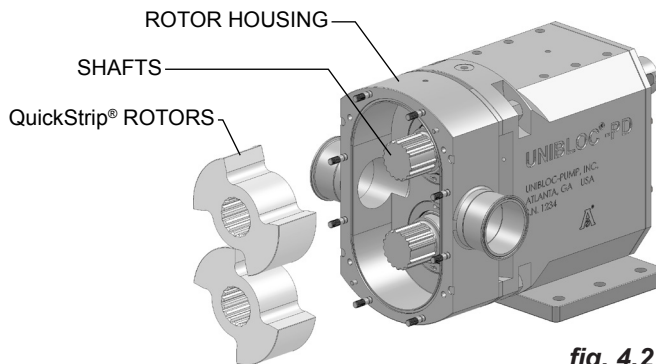

fig. 4.2
**QuickStrip® Rotors** do not require locking mechanisms and can simply be removed from the rotor housing by sliding them off the shafts. Be sure to place the rotors in a safe place while maintaining the pump, as they can be easily damaged. Proceed to the respective shaft seal maintenance section once the rotors have been removed (see fig.4.2).
See section 6.3 for torque limits. For QuickStrip® rotors (see fig. 4.2), visually check that the rotors are below the front surface of the rotors housing. If they are not, remove the rotors and check that the shaft seals have been properly installed. Insert the rotors and turn them to make sure they do so freely. Place the **Front Cover O-ring** in the groove on the front of the **Rotor Housing**. Make sure all **Front Cover Studs** are torqued. Place the **Front Cover** on the pins (if present) and install and tighten the **Front Cover Stud Nuts** according to the specified torque. Check the oil level in the bearing housing as described in section 6.2. If flushed seals were installed, reconnect the flush tubing. Refer to section 3.3 before starting the pump.